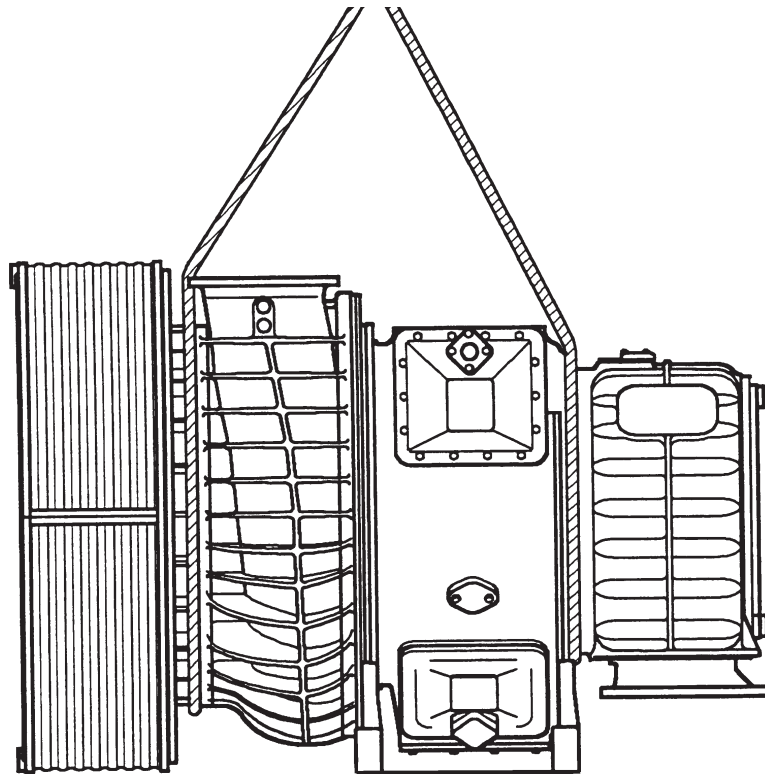

Fig. 5-2
- Seil um Turbolader schlingen und am Kranhaken befestigen (s. Fig. 5-2).
- Loop a rope around the turbocharger and fix it to the crane hook (see fig. 5-2).